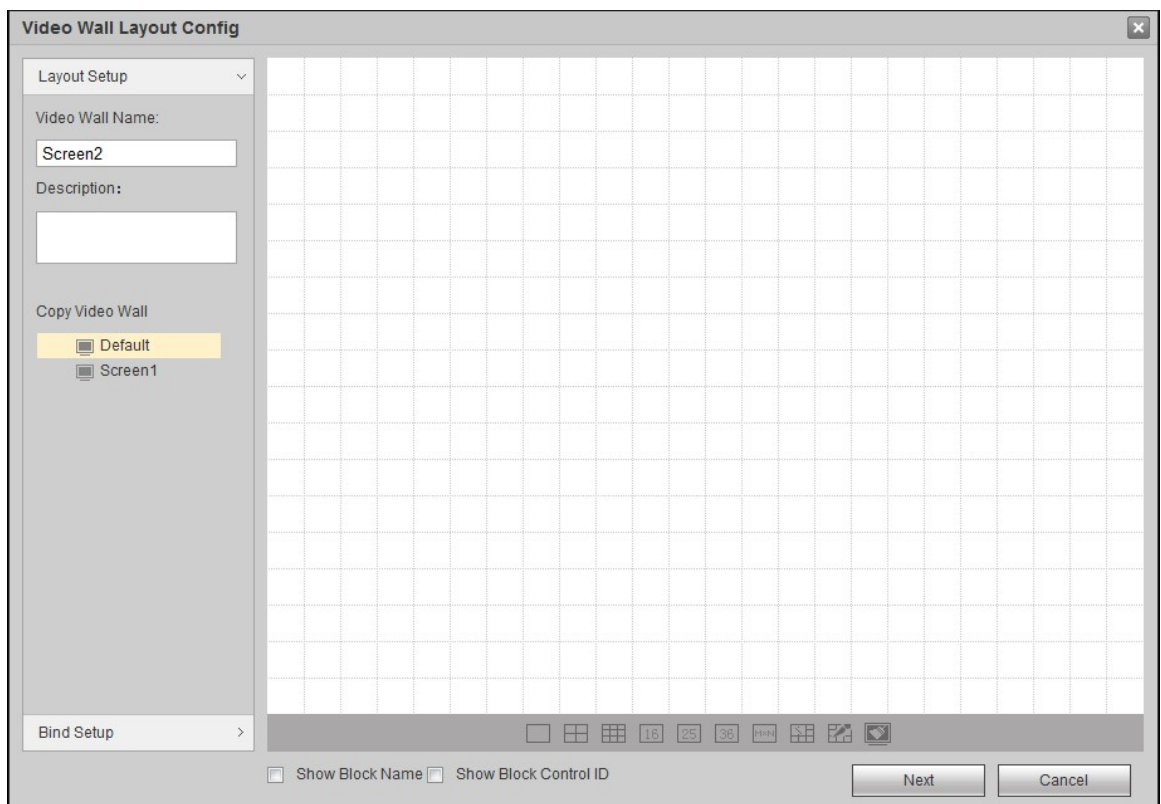

Figure 3-5
Step 2 Click "Add Video Wall". The system displays "Video Wall Layout Config" interface, as shown in Figure 3-5.